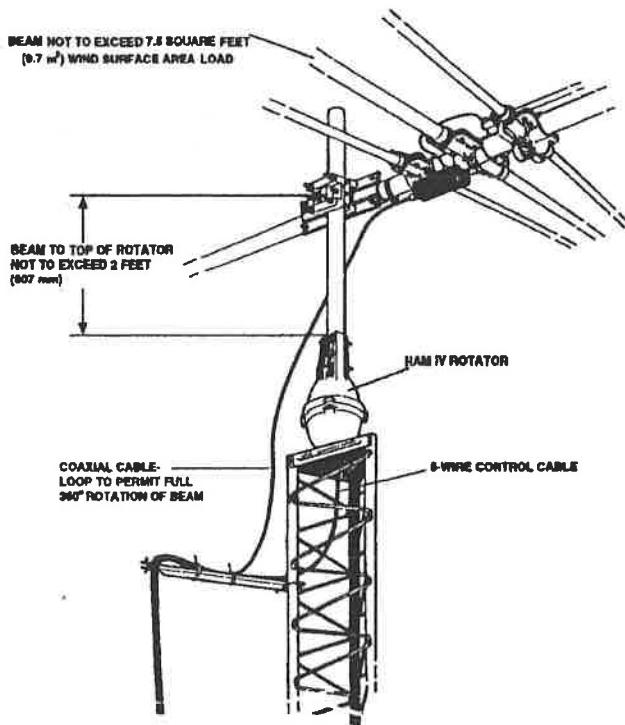
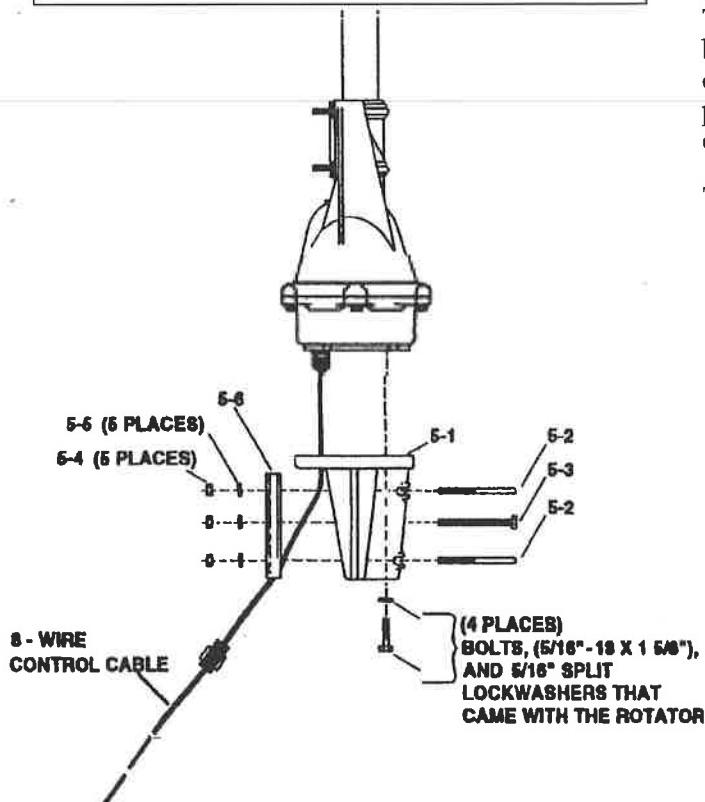

Figure 5
Figure 7
2. An "outside" Tower Mount (see Figure 5) is optional. The rotator is not well protected but the installation is simpler. With an "Outside" Tower Mount, the rotator must be derated to 7.5 square feet.
Referring to Figures 5, 6, and 7, an outside tower or pole mount is made in the same manner except that the rotator is fastened by four (4) bolts only (not six) to the Lower Mast Support, PN 51467 10. Since the eccentricity of the rotator turning in reference to the tower is no longer important, the shimming procedure is not necessary. The four (4) bolts must be torqued to the same specification and the 8-wire cable securely fastened. The lower mast should be pinned with the 5/16"-18 x 4" bolt as shown in Figure 7.
The stock HAM W is intended to mount on the base plate inside of the tower. However, in some instances, outside tower or mast mounting is desired as per Figures 5 and 6. This kit, P/N 5146710 contains a heavy-duty lower mast support and the necessary hardware to facilitate mounting the HAM IV on top of a tower stub or mast.